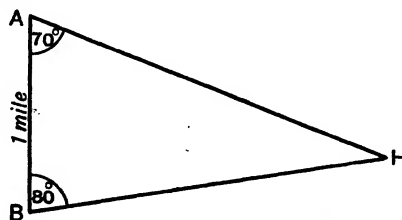

FIG. 103. DIAGRAM FOR EXAMPLE 1
1. Two observers, A and B, a mile apart on a straight road, each measure the angle between the road and a line pointing towards a distant hilltop. A finds that the angle is 70° and B finds it to be 80°. Find the distance of the hilltop from A, Fig. 103.